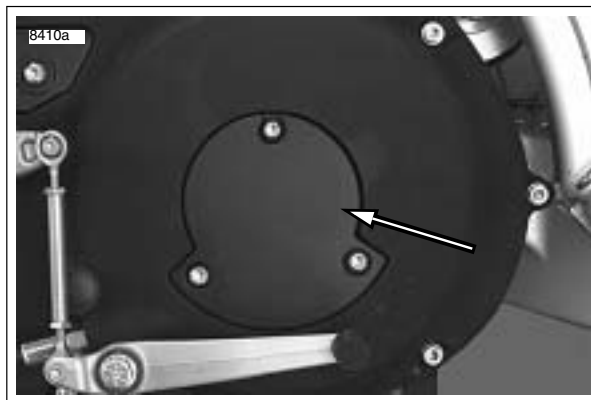

Figure 1-20. Clutch Inspection Cover
8. See Figure 1-20. Install clutch inspection cover tightening three fasteners and washers to 84-108 **in-lbs** (10-12 Nm).
3. See Figure 1-20. Remove three fasteners and washers from clutch inspection cover. Remove clutch inspection cover and gasket from primary cover.
- c. Tighten jam nut (3) against adjuster (4).
- d. Slide boot (1) over cable adjuster mechanism.
8. See Figure 1-20. Install clutch inspection cover and **new** gasket using three fasteners and washers and tighten to 84-108 **in-lbs** (10-12 Nm).